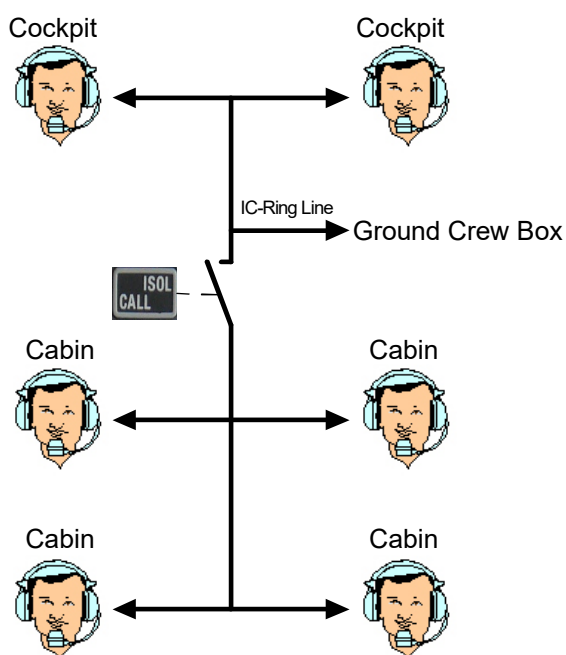

Figure 41: Intercom Circuits - IC-Ring Line connected to the Cockpit
- Details see "Figure 41: Intercom Circuits - 3rd-IC-Circuit for Special Mission Operation" page 101.